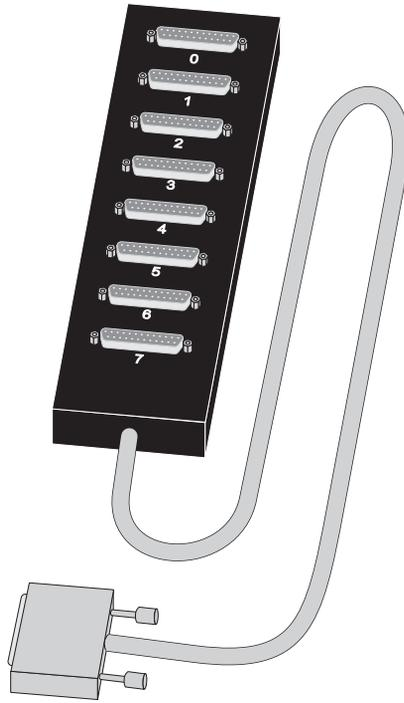

FIGURE 3-1 Eight-Port Connector Box
- FIGURE 3-1 Eight-Port Connector Box 6